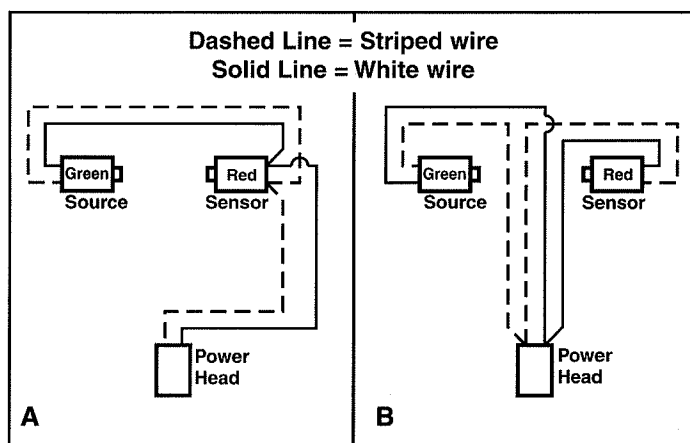

FIG. 5 Wiring methods
- > Split and strip wire ends to be connected as shown (Fig. 5).